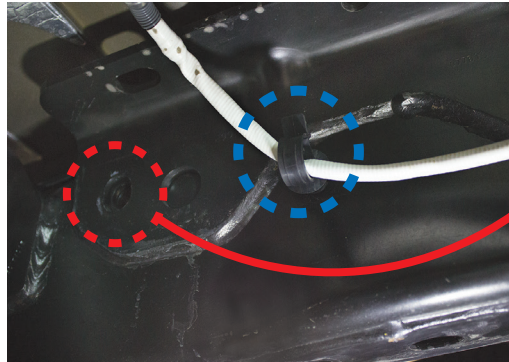

fig. D.27
1. Locate the clip (blue circle) that holds the wiring harness for the O₂ sensor. Discard the clip, as it will no longer be needed (Fig. D.27).